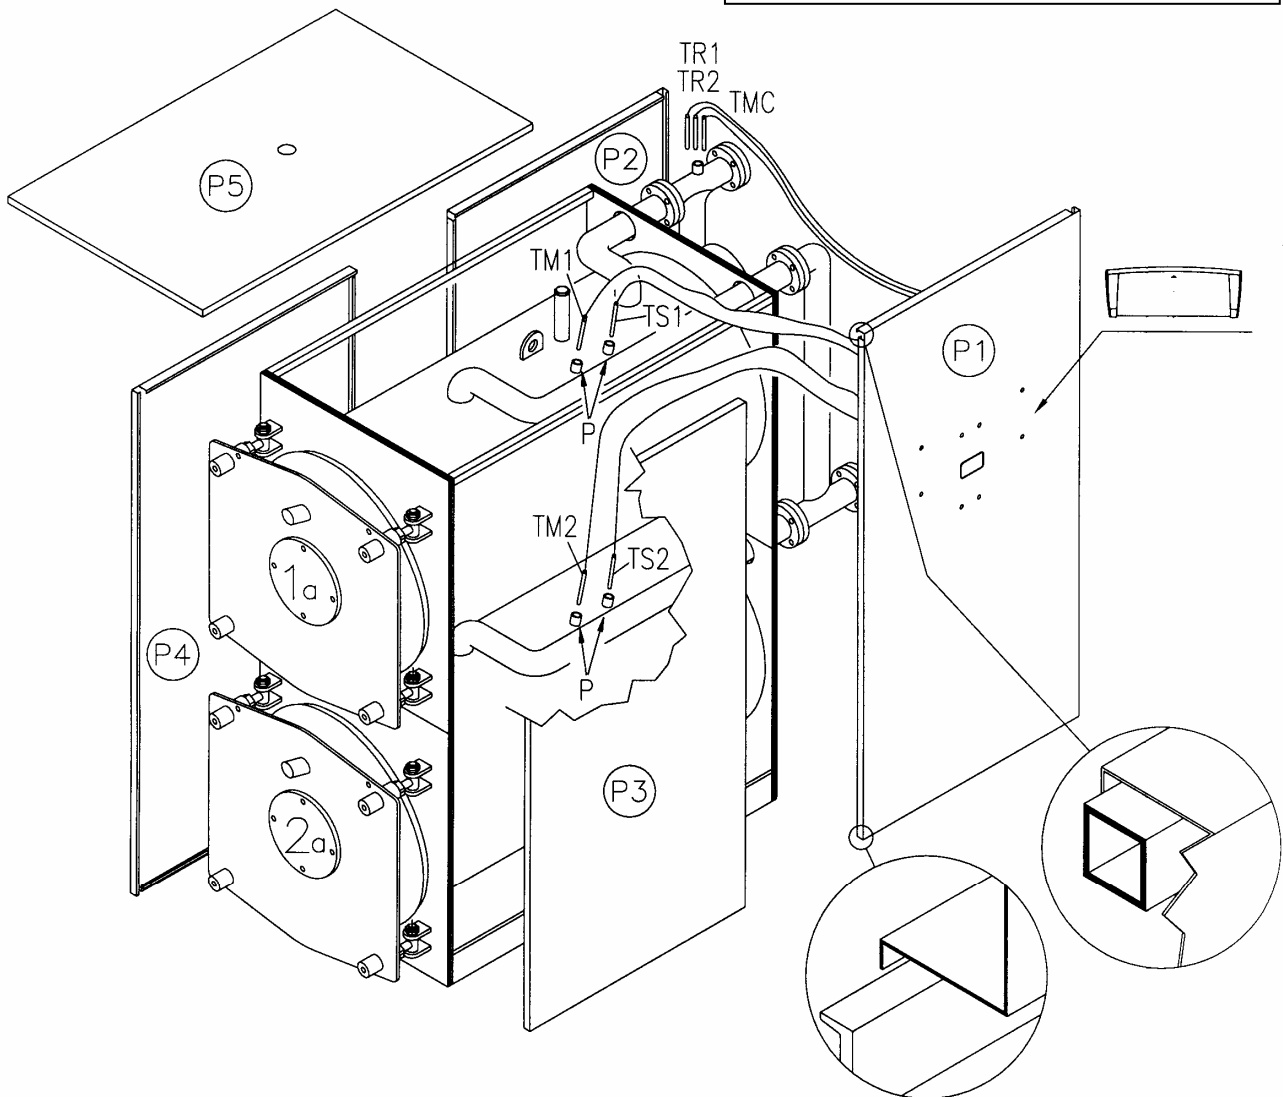

Fig. 10
**4.4 REX DUAL BOILER CASINGS (Fig. 10)**
- a) Wrap the glass wool around the boiler body leaving the bulb well (P) on the right side exposed.